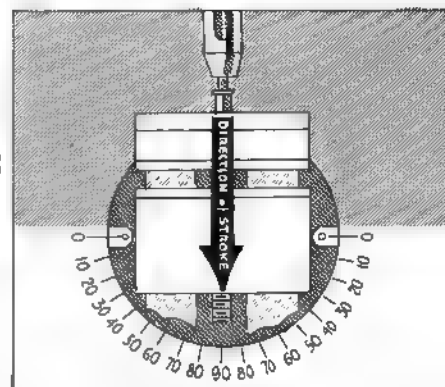

FIG. 142
2. Note that the zero position is the one in which the vise jaws are set 90° to the direction of the stroke (Fig. 142).